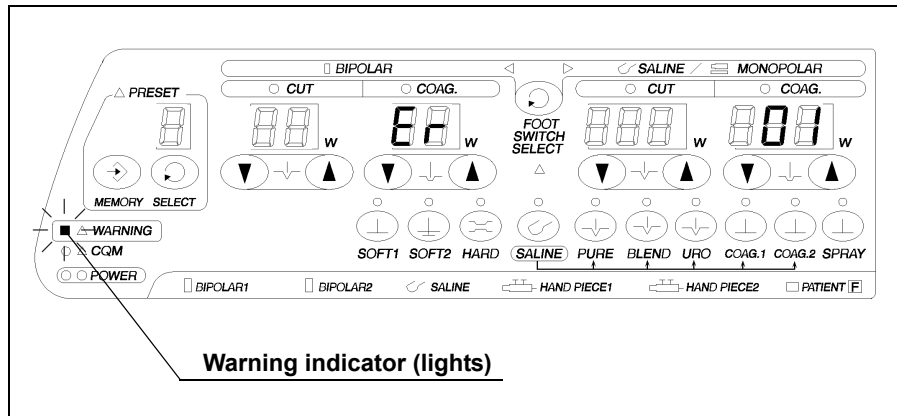

Figure 4.7
2. Confirm that the warning indicator lights, the output setting indicator displays "Er01" and a warning tone is heard (see Figure 4.7).